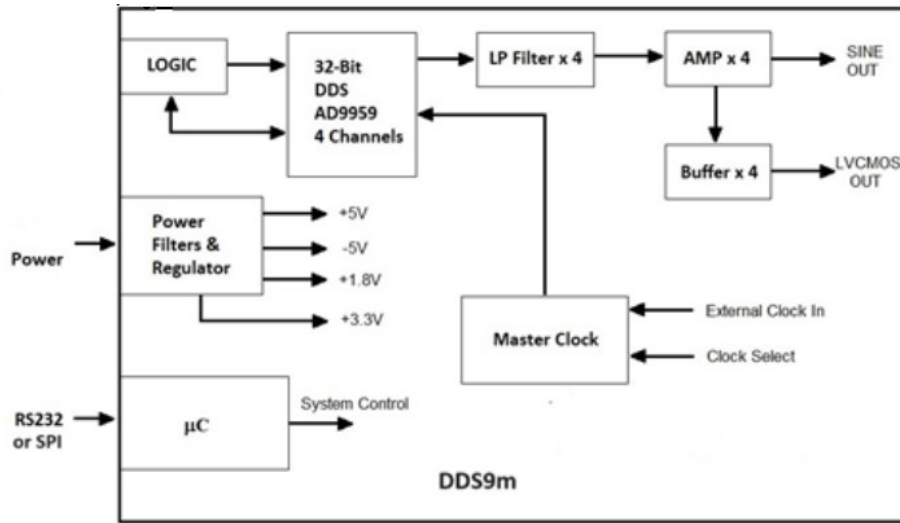

Figure 1
5.1 Please refer to the simplified System Block Diagram in Figure 1 for the following discussion.